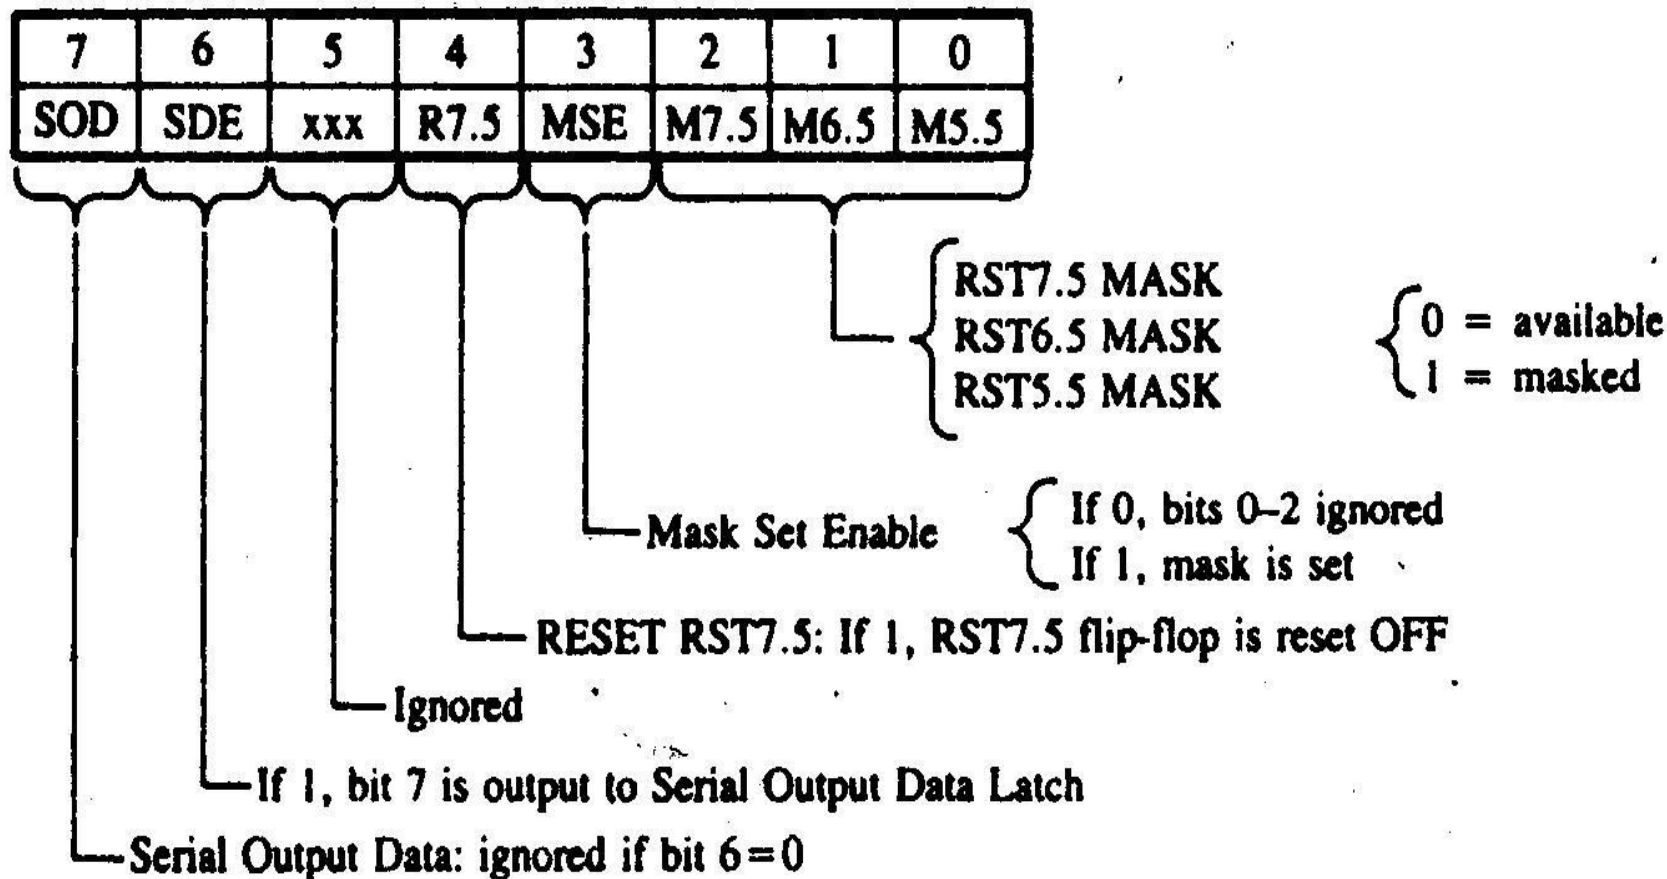

FIGURE 12.6
Set Interrupt Mask. This is a 1–byte instruction and can be used for three different functions (Figure 12.6).
- ❑ The second function is to reset RST 7.5 flip-flop (Figure 12.6). Bit D_4 is additional control for RST 7.5. If $D_4=1$, RST 7.5 is reset. This is used to override (or ignore) RST 7.5 without servicing it.